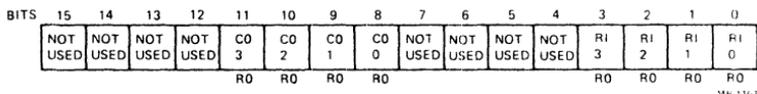

Figure 8 Modem Status Register Bit Assignments
**Modem Status Register** – The modem status register (MSR) is a 16-bit read-only register. A read to this register results in the status of the readable modem control leads, ring and carrier. The ON condition of a modem control lead is interpreted as a logical 1. Bits 4 through 7 and 12 through 15 are unused and read as a zero. Remaining bit designations are shown in Figure 8 and explained below.